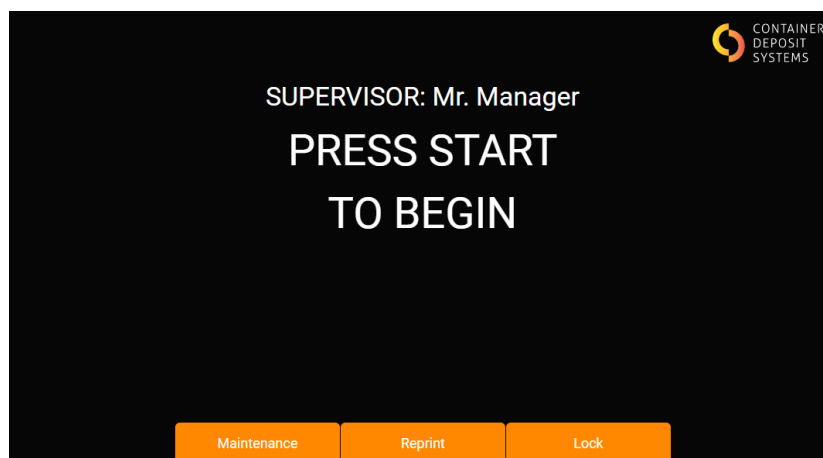

Figure 13. Press Start to Begin
- The screen will change to display 'Press Start to Begin' as seen on Figure 13. Press Start to Begin